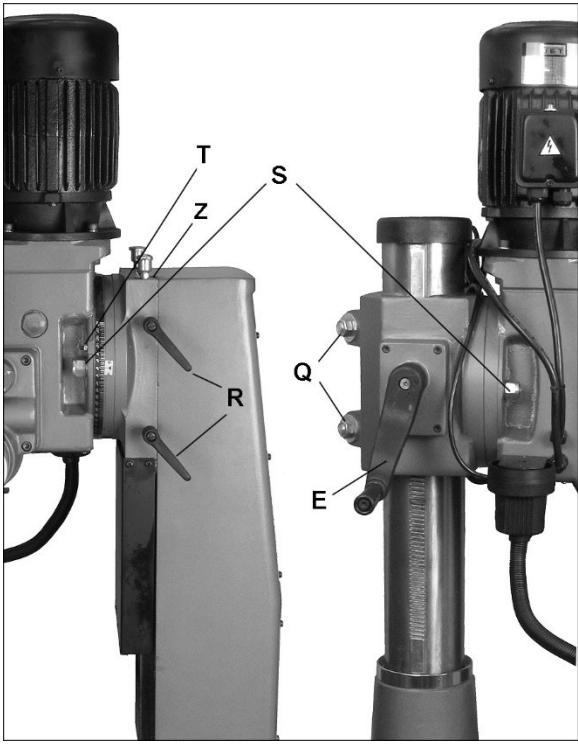

Figure 7-2: head adjustments
- 1 Screw three downfeed handles (F) into hub and tighten. Flat spot on rod accommodates an open or adjustable wrench. **Note:** Handle shafts are already installed into hub on powerfeed models.
- 2 Slide crank (E) onto shaft of column (see Figure 7-2) and tighten set screw. Make sure set screw seats on flat part of shaft.
- 3 Thread handle (D) into crank and tighten nut.
- Slide handwheels (A) onto shafts at front and both ends of table. If needed, tap with rubber mallet to seat handwheels onto shafts. Tighten set screws.
- Thread handle (D) onto each handwheel and tighten nut.
- Loosen lock handles/nuts (Q or R, Figure 7-2) and raise head using crank (E) to remove shipping block from table.
See Figure 7-2.
A Z-axis gib adjustment screw is located atop the square column near oil cup (see Z, Figure 7-2). Follow same principle as described under sect. 7.4.1. Slight drag should be felt when turning crank handle.